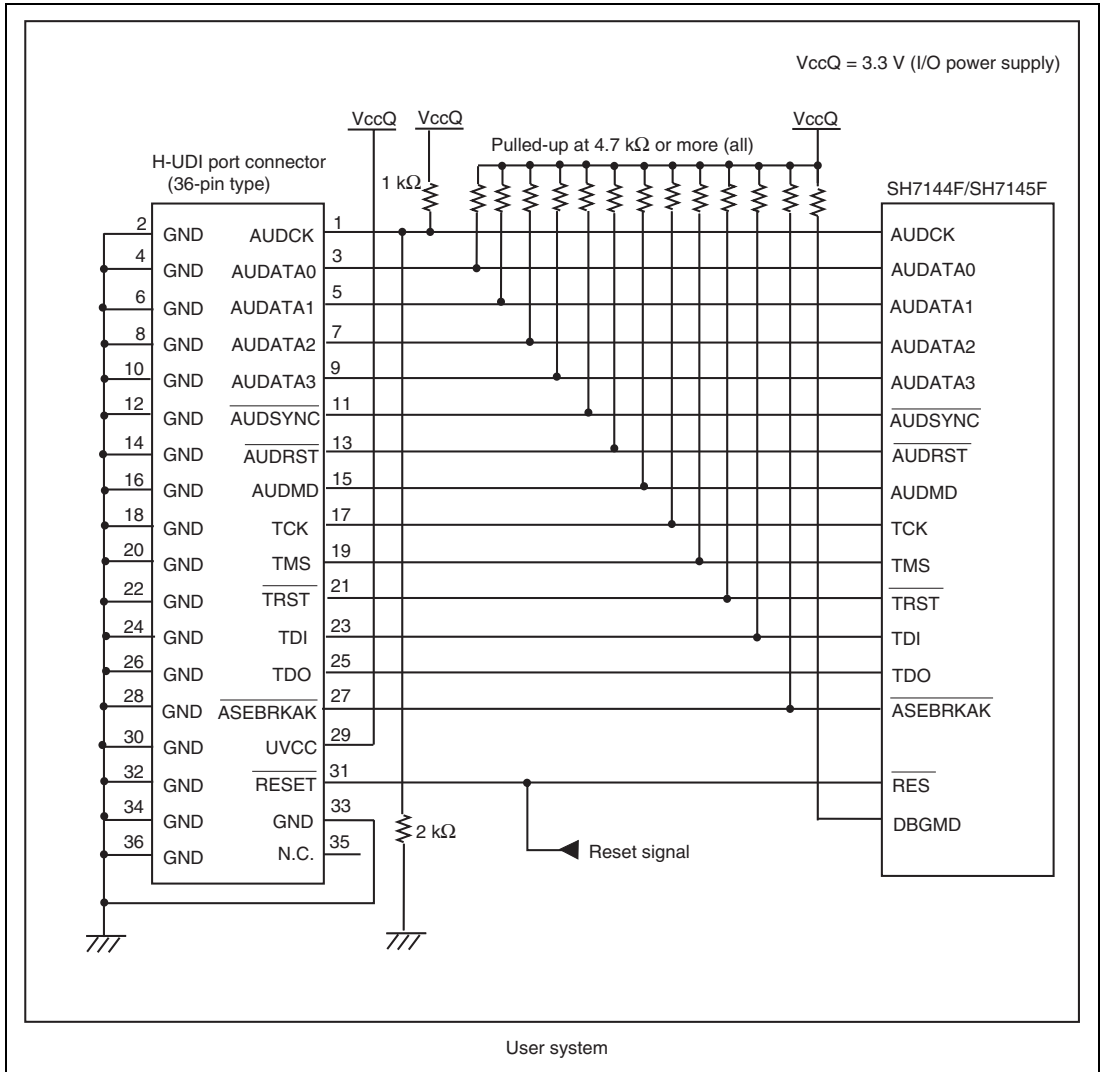
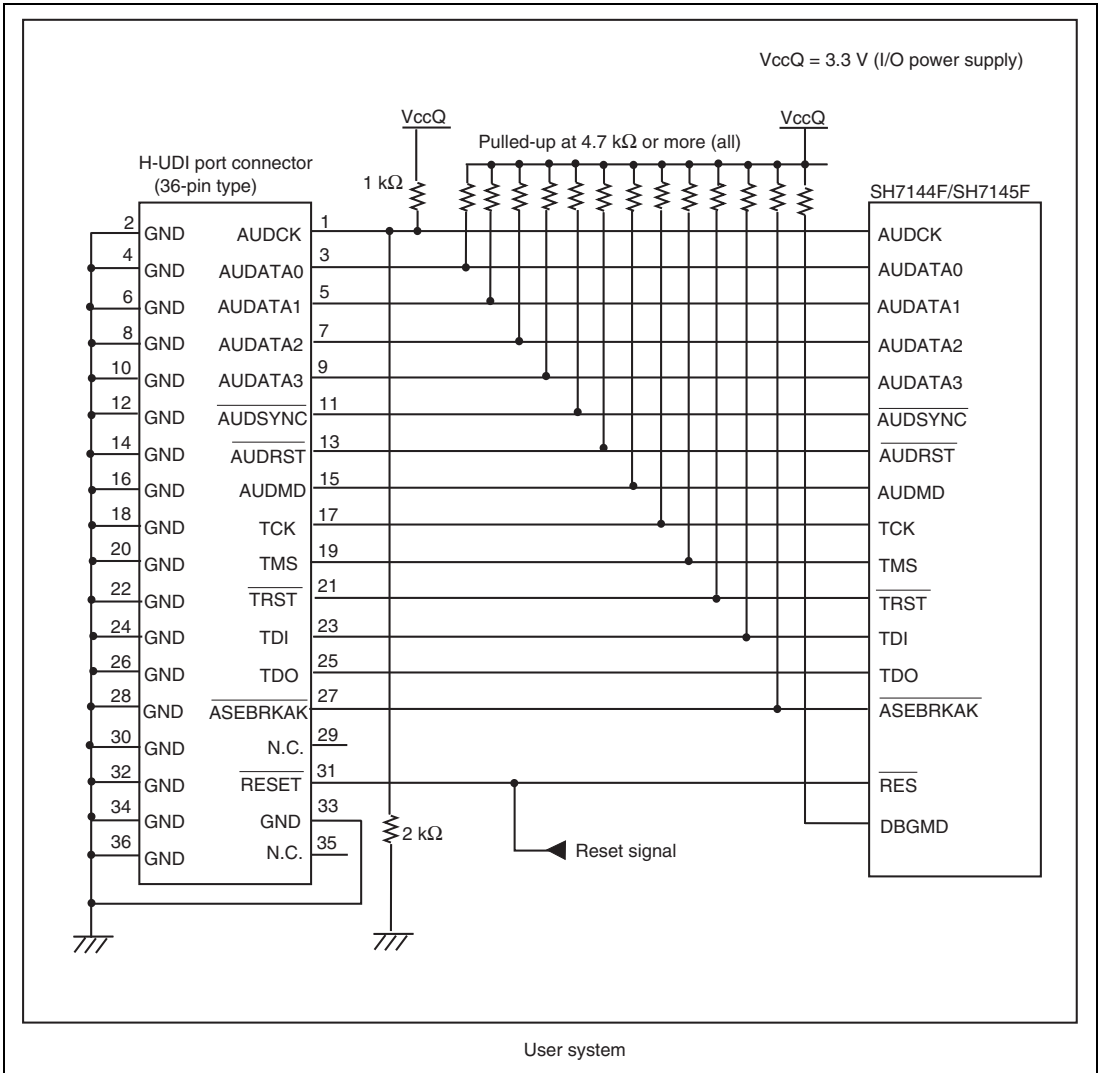

Figure 1.3 Recommended Circuit for Connection between the H-UDI Port Connector and MCU when the Emulator is in Use (36-Pin Type UVCC Connected)
Figure 1.4 Circuit for Connection between the H-UDI Port Connector and MCU when the Emulator is in Use (36-Pin Type UVCC Not Connected*)
Figure 1.3 shows a recommended circuit for connection between the H-UDI and AUD port connectors (36 pins) and the MCU when the emulator is in use. Figure 1.4 shows a circuit for connection when UVCC is not connected.
- (1) When the emulator is used: $\text{DBGMD} = 1$ (ASE mode)
- (2) When the emulator is not used: $\text{DBGMD} = 0$ (normal mode)
6. When the power supply of the user system is turned off, supplying VccQ of the user system to the UVCC pin reduces the leakage current from the emulator to the user system. Buffers that can be activated by the internal power supply or user power supply (changed by the switch) are installed in the interface circuit of the emulator. If the user power is selected for supply to the UVCC pin, the buffers will not be activated unless supplied with user power. Thus no current flows from the user interface when the power supply of the user system is turned off. The I/O voltage level of the user system interface can be the same as that of the VccQ. To operate the emulator with low voltage (lower than 3.3 V), the VccQ must be supplied to the UVCC pin. Make the emulator's switch settings so that the VccQ will be supplied ($\text{SW2} = 1$ and $\text{SW3} = 1$) (as shown in figure 1.3).
7. The resistance values shown in figures 1.3 and 1.4 are recommended.
When the circuit is connected as shown in figure 1.3, the switches of the emulator are set as SW2 = 1 and SW3 = 1. For details, refer to section 3.8, Setting the DIP Switches, in the SuperH™ Family E10A-USB Emulator User's Manual.
When the circuit is connected as shown in figure 1.4, the switches of the emulator are set as SW2 = 0 and SW3 = 1. For details, refer to section 3.8, Setting the DIP Switches, in the SuperH™ Family E10A-USB Emulator User's Manual.